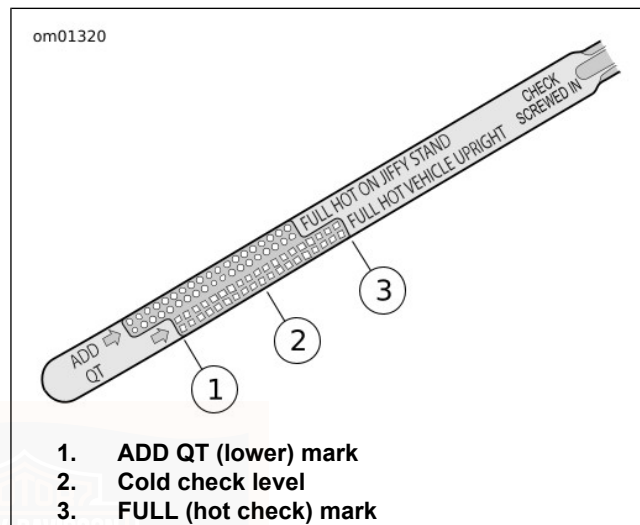

Figure 46. Engine Oil Dipstick
See Figure 46. When checking oil level, use the side of the dipstick marked FULL HOT VEHICLE UPRIGHT.
4. See Figure 46. Remove the dipstick. Using the gauge marked FULL HOT VEHICLE UPRIGHT on the dipstick, verify the oil level. The level should be between the ADD (1) and FULL (3) marks. Add oil as necessary to bring the level to the FULL mark on the dipstick. Do not overfill.